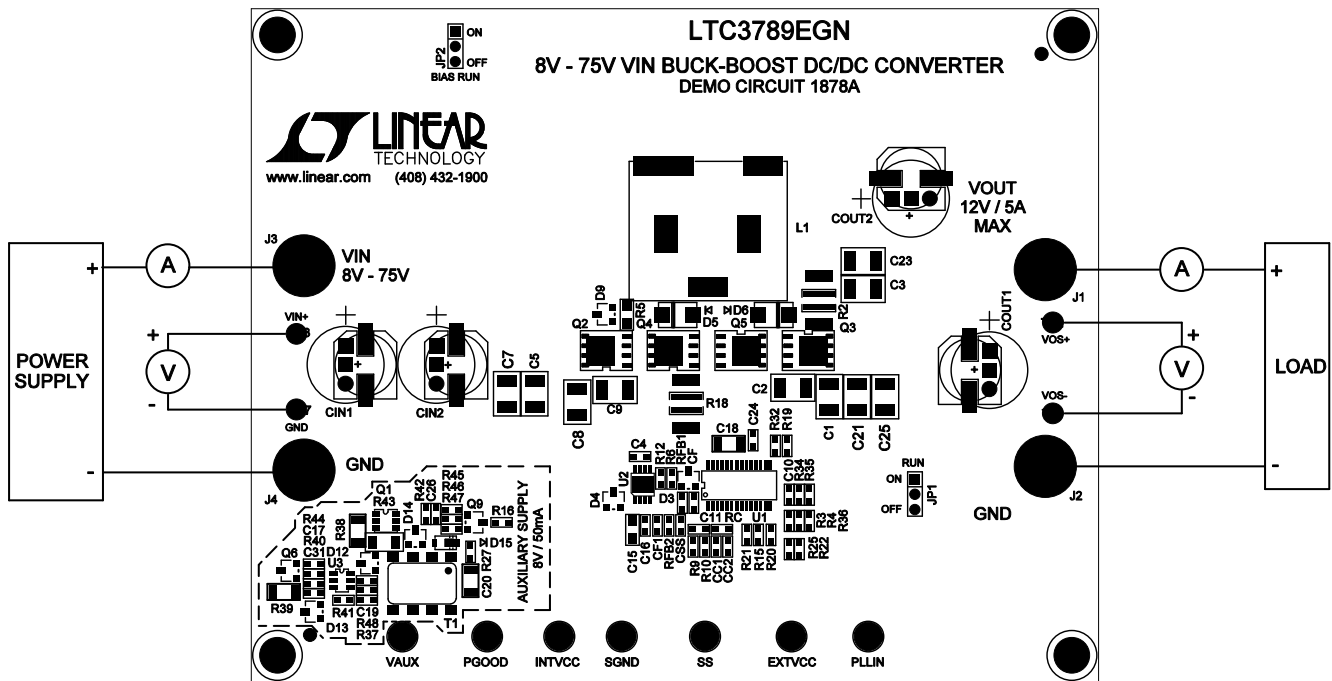

Figure 1. Proper Measurement Equipment Setup
Demonstration circuit 1878A is easy to set up to evaluate the performance of the LTC3789EGN. Please refer to Figure 1 for proper measurement equipment setup and follow the procedure below.
1. With power off, connect the input supply, load and meters as shown in Figure 1. Preset the load to 0A and  $V_{IN}$  supply to 0V.